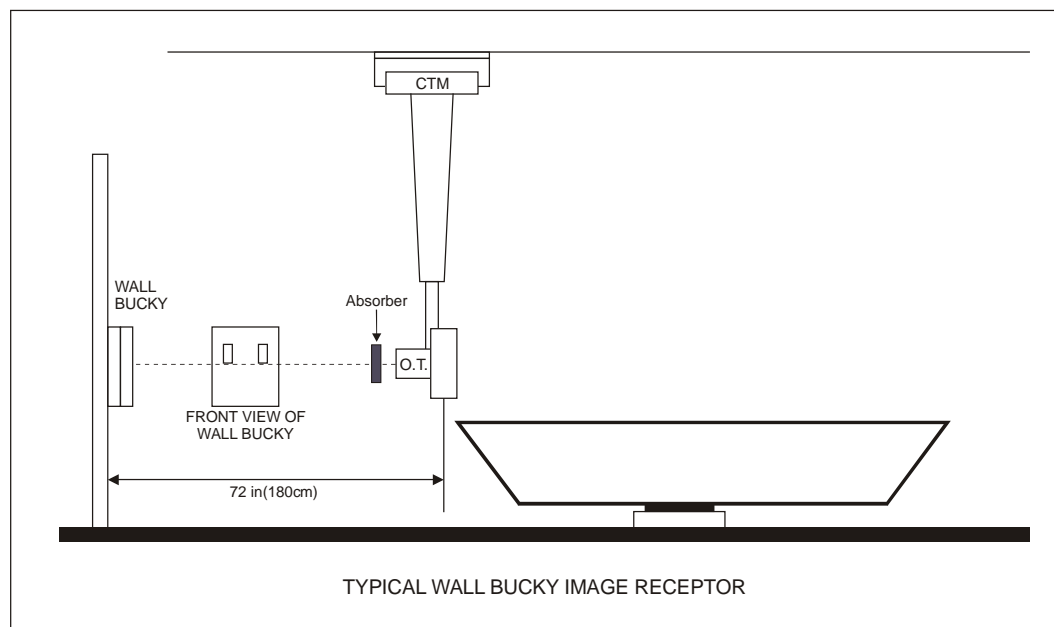

Figure 4-8: Equipment setup for wall Bucky AEC calibration
1. Set up the X-ray tube stand as shown in Figure 4-8.